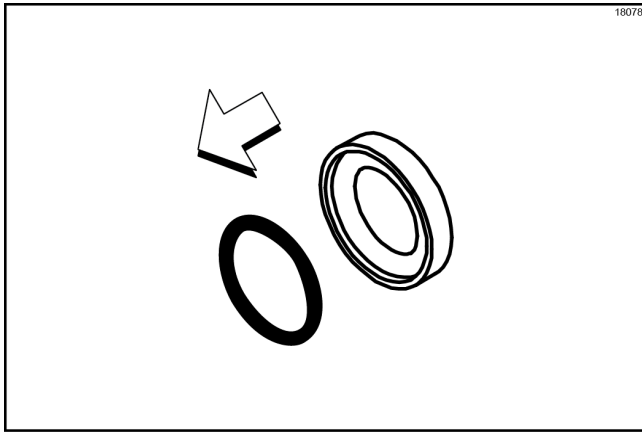

Figure-77
8. Remove the O-ring from the seal. (See Figure-77.)